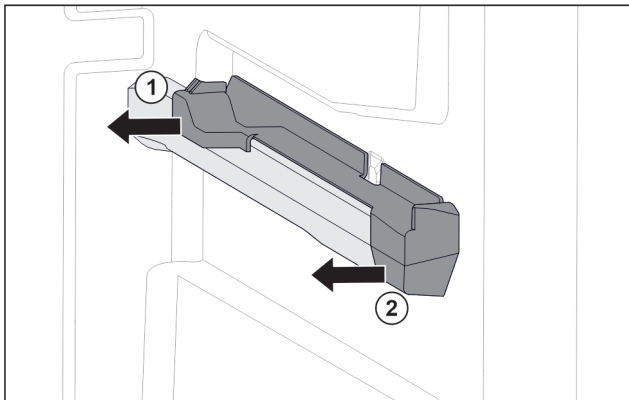

Fig. 153 Attachment on the right moulded rib
- ▶ Pull off attachment at the back sideways. Fig. 153 (1)
- ▶ Pull off attachment at the front sideways. Fig. 153 (2)